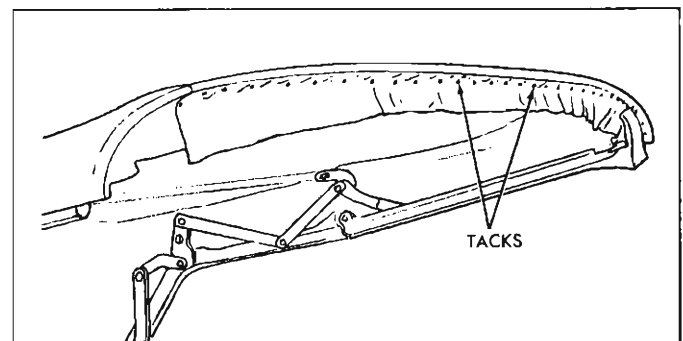

Fig. 76—Installation of Top Material to Front Roof Rail
50. Unlock top from windshield header and apply neoprene-type weatherstrip adhesive to tacking area of front roof rail. Pull top trim material slightly forward so that pencil marks are forward on front edge of front roof rail. Fasten top trim to cemented area and stay tack trim to rail (fig. 76).